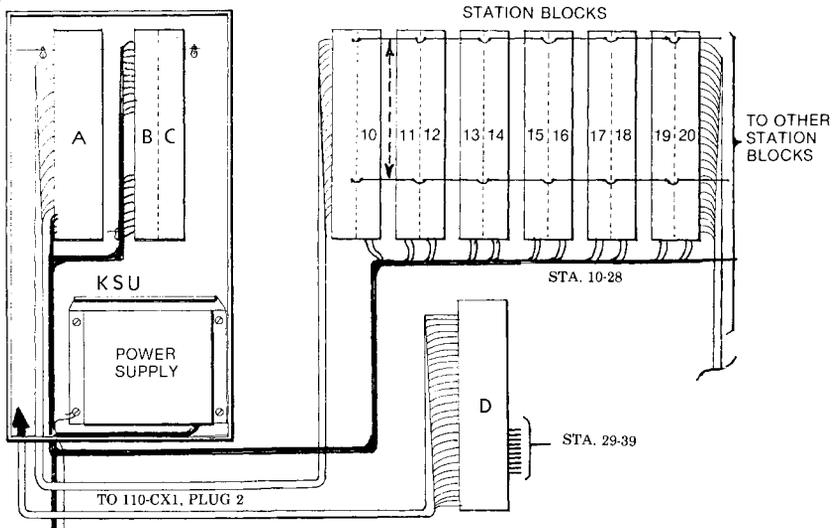

Fig. 4 — Installation of Block D and Connection of Intercom Signal Leads
3.08 If more than 19 stations are to be connected or if the Call Announcing/Tone card is used, install a 66-type block near the KSU and label it "D". (Fig. 4)
CONNECT INTERCOM SIGNAL LEADS (Fig. 4 and Table E)